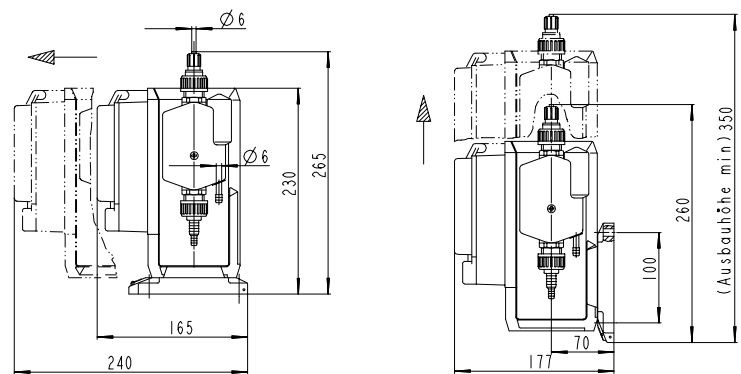

Fig. 4: Dimension drawing
- Fasten the pump on the slip-on pump foot (refer to fig. 4) at max. 1.5 m (in case of agents with a density of 1.0 g/ml) above the tank bottom, preferably as low as possible, however (in case of dosing systems DM-T 20 – DM-T 100 on the dosing tank).